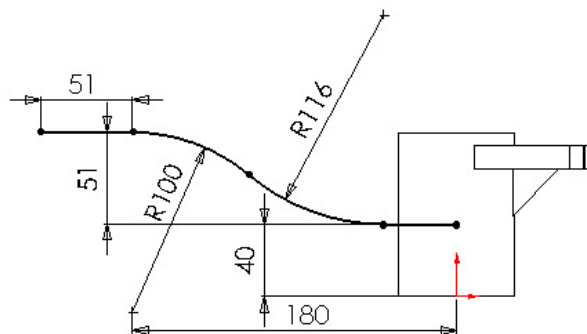

Figure 7 Sweep path
3. Sketch and dimension the sweep guide curve as shown in Figure 7.